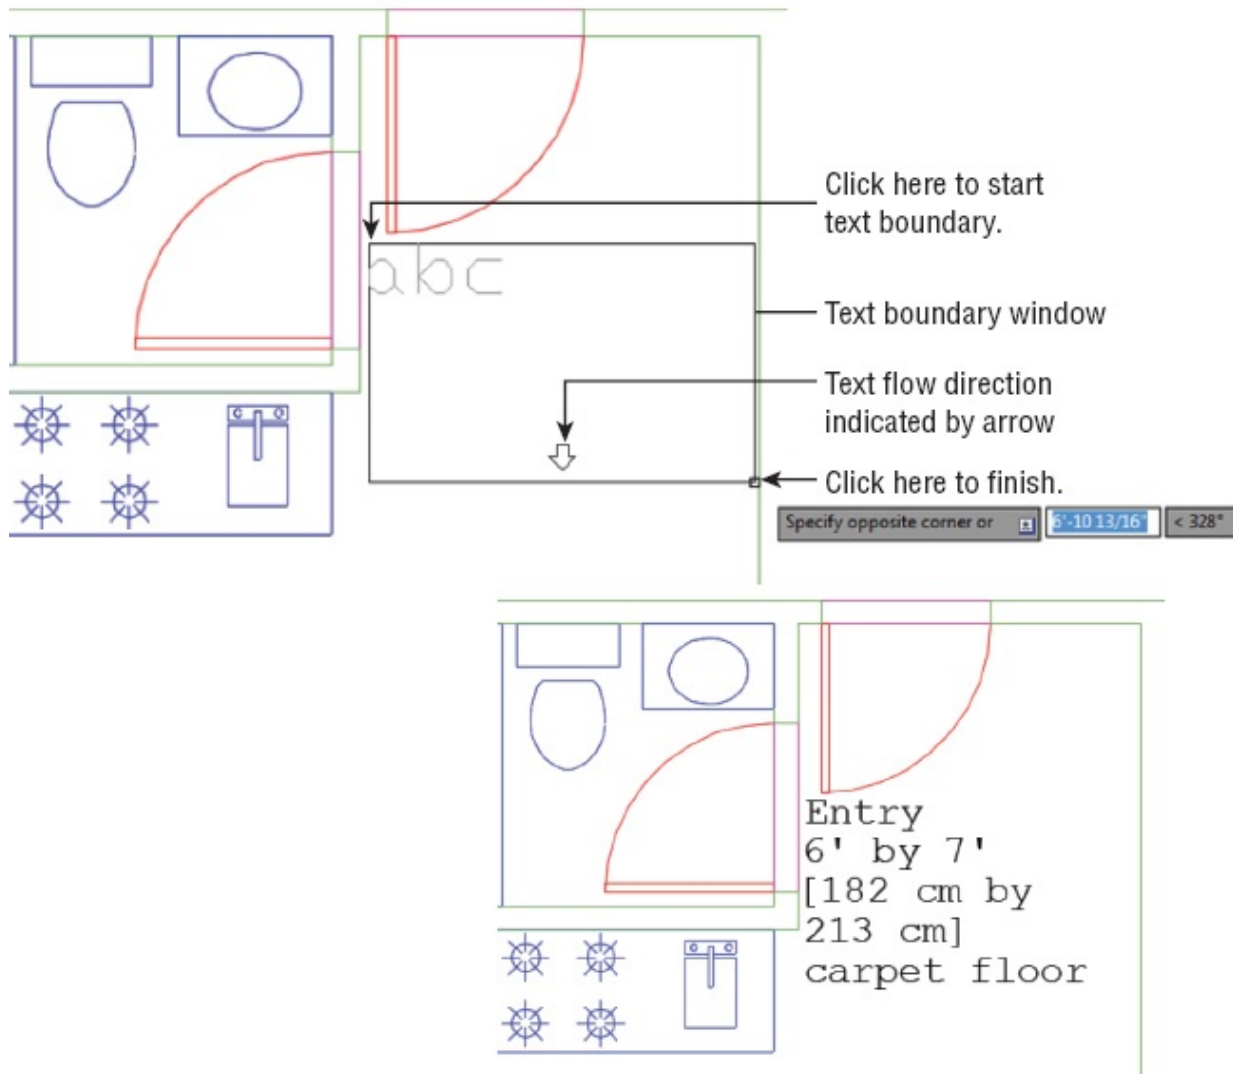

FIGURE 9.1 The top image shows the points to pick to place the text boundary window. The bottom image shows the completed text.
4. Set up your view so that it looks similar to the top image in Figure 9.1.
3. Click the first point indicated in the top image in Figure 9.1 to start the text boundary window. This boundary window indicates the area in which you'll place the text. Notice the arrow near the bottom of the window; it indicates the direction of the text flow. You don't have to be too precise about where you select the points for the boundary because you can adjust the location and size later.
4. At the Specify opposite corner or [Height/Justify/Line spacing/Rotation/Style/Width/Columns]: prompt, click the second point indicated in the top image in Figure 9.1. The Text Editor tab appears with the text editor superimposed over the area you just selected (see Figure 9.5).
9. Click Close Text Editor on the Close panel. The text appears in the drawing just as it did in the text editor. (See the bottom image in Figure 9.1.)